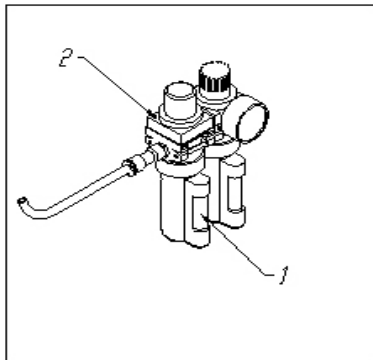

Figure 11-1
- Check the oil level in the lubricator tank. If necessary, fill up by unscrewing screw 1 (figure 11-1)